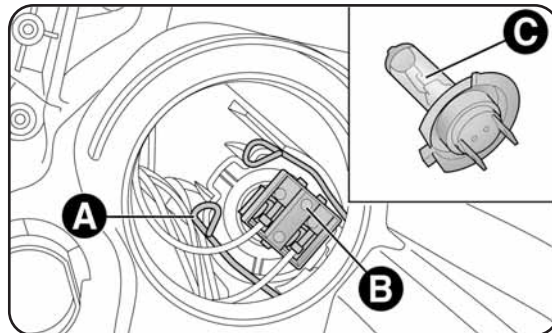

fig. 16
- release the bulb holder clip A-fig. 16;